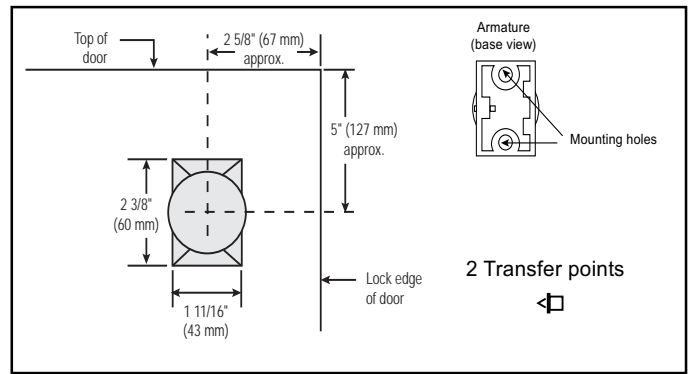

Figure 3. Mounting the Armature Assembly
**NOTE:** Armature assembly must be mounted vertically (Figure 3) to obtain correct alignment with the electromagnet.
- Place the transfer marking points in the armature mounting holes (Figure 3).